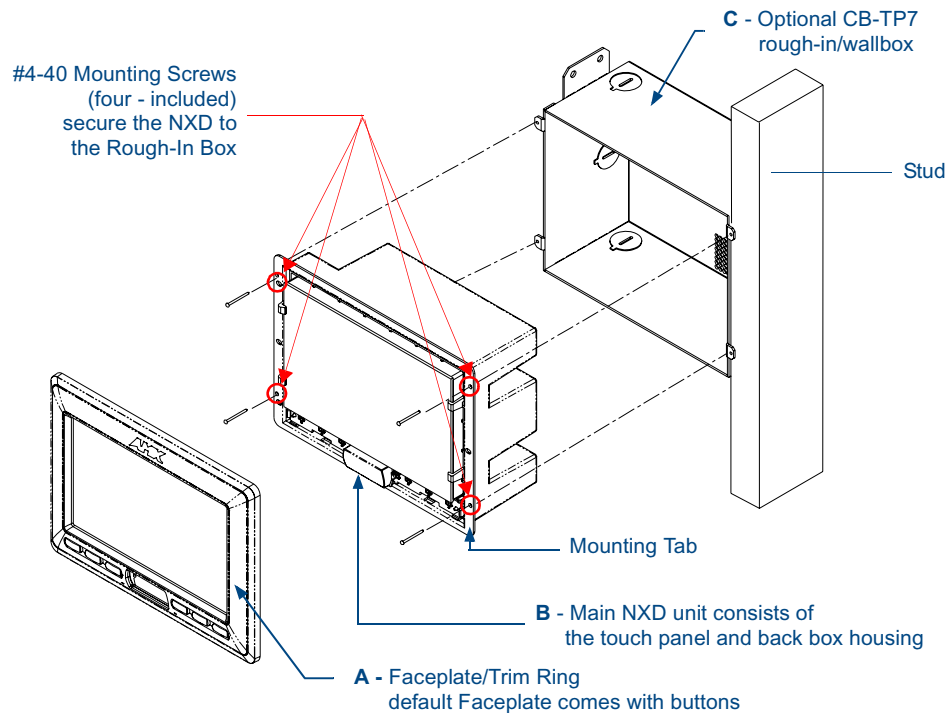

FIG. 37 NXD-CV7 panel installation into a CB-TP7 (pre-wall construction)
1. Remove the Faceplate/bezel (A in FIG. 37) from the main NXD unit (B in FIG. 37) by gripping the faceplate and pulling with gentle outward force.
6. Carefully slide the main NXD-CV7 unit (B in FIG. 37) into the rough-in box, so that all Mounting Tabs lie flush against the rough-in box (C in FIG. 37).
8. Place the Faceplate/Trim Ring assembly (**A** in FIG. 37) back onto the main NXD unit (**B** in FIG. 37). *Make sure to align the Microphone, Light, and PIR Motion sensor locations to their respective openings on the front faceplate/bezel.*